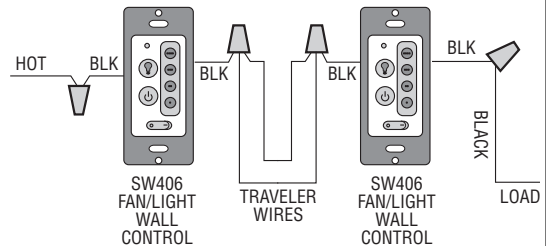

Figure 23
**NOTE:** Retrofit 3-way installations are likely to include two traveler wires between the two wall boxes. In new construction, only one traveler wire is required (See Figure 23).
The wall control is supplied with a white, ivory, and almond color switch covers. Choose the finish that best suits your needs and snap the cover onto the wall control (Figure 23).